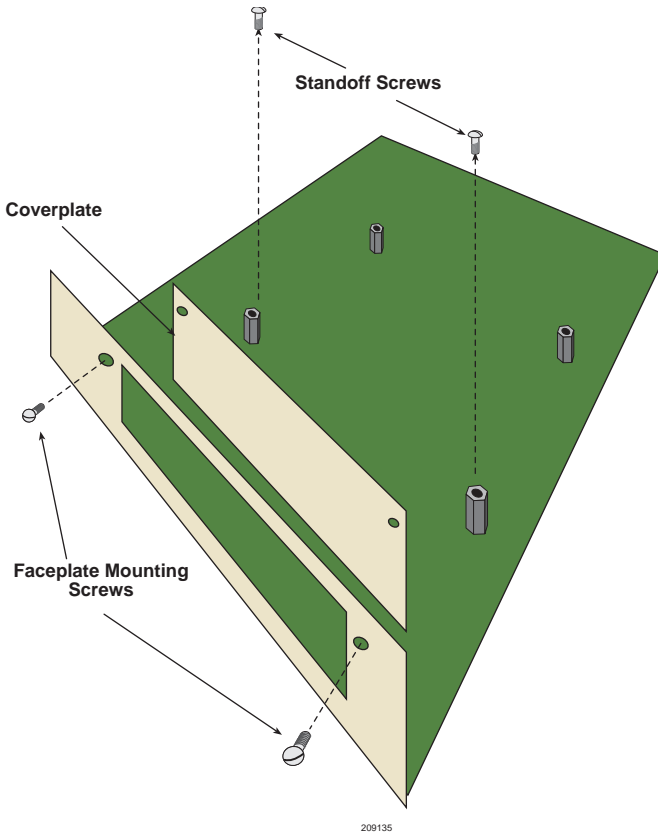

Figure 2-3 Removing the HSIM Coverplate
5. Refer to Figure 2-3 and remove the two faceplate mounting screws and the HSIM coverplate. Save the screws.
6. Refer to Figure 2-3 and remove the two standoff screws. Save the screws.
5. Refer to Figure 2-3 and remove the two faceplate mounting screws and the DELHF coverplate. Save the screws.